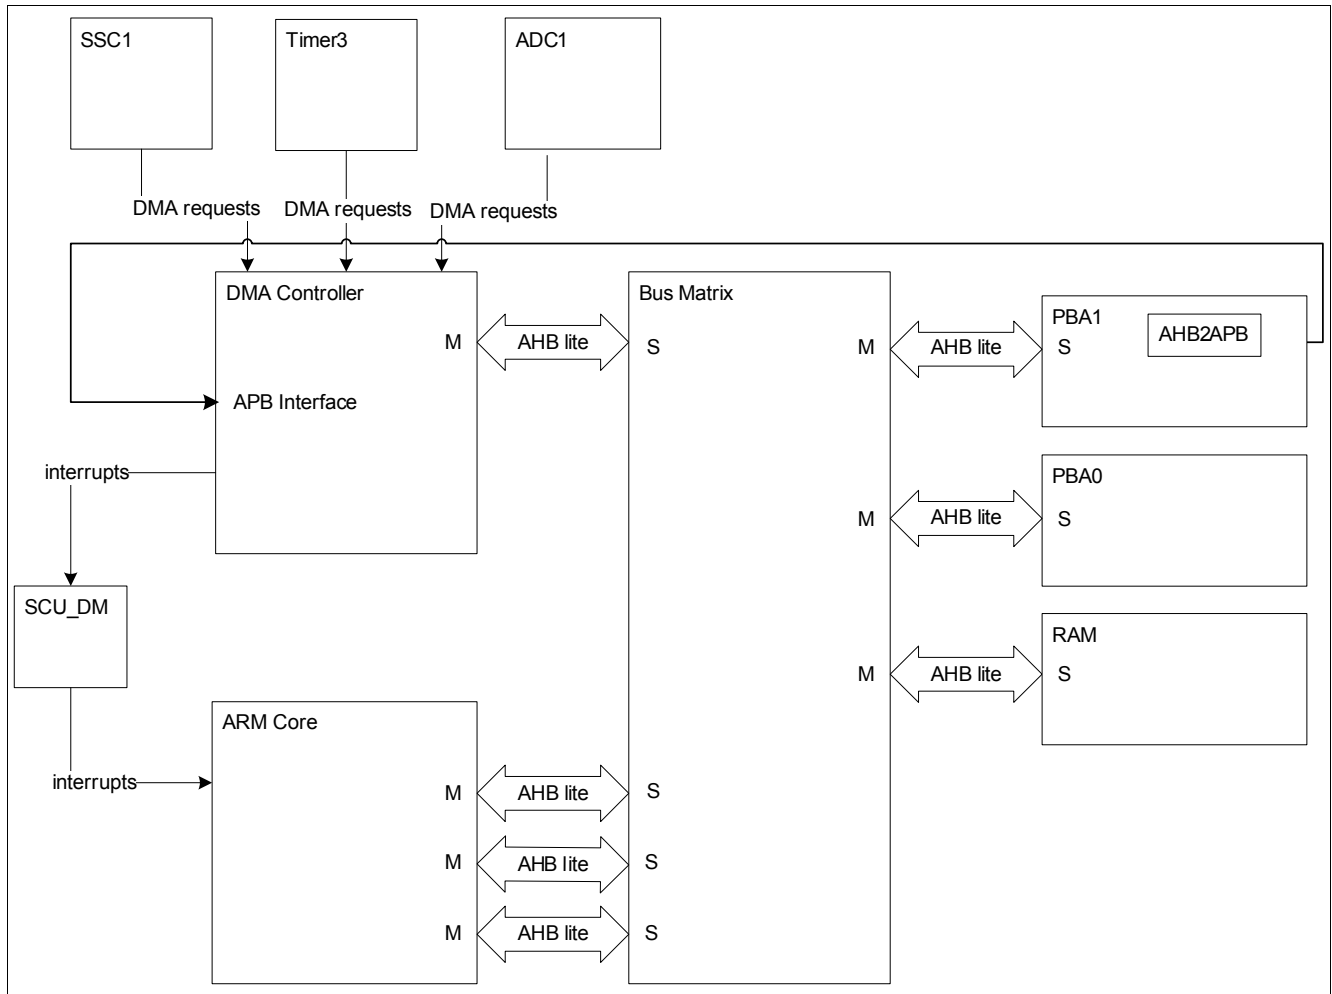

Figure 13 DMA Controller Top Level Block Diagram
**Figure 13** shows the Top Level Block Diagram of the TLE9877QXW40.